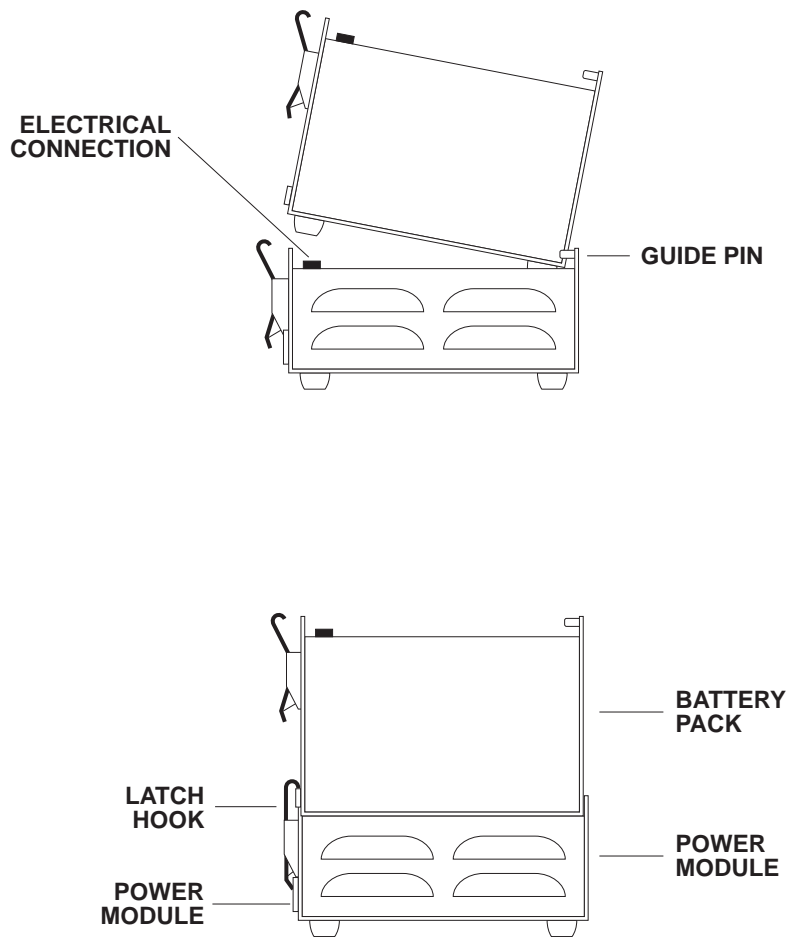

Figure 2.2
- 1) Connect the battery pack to the power module (refer to Figure 2.2). Multiple battery packs may be connected to the power module (refer to Figure 2.3).